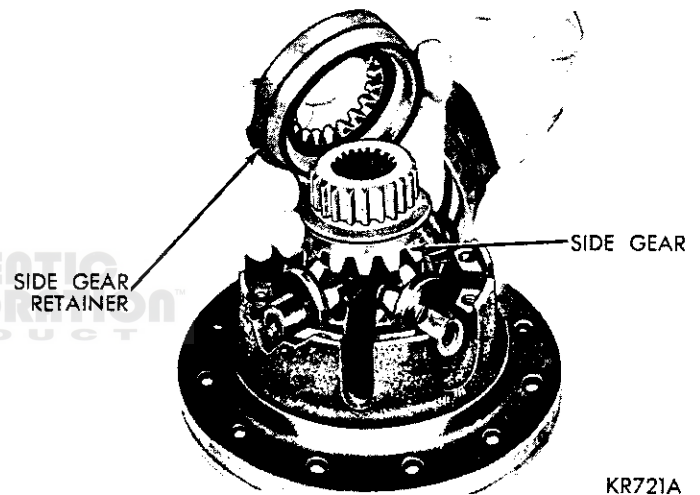
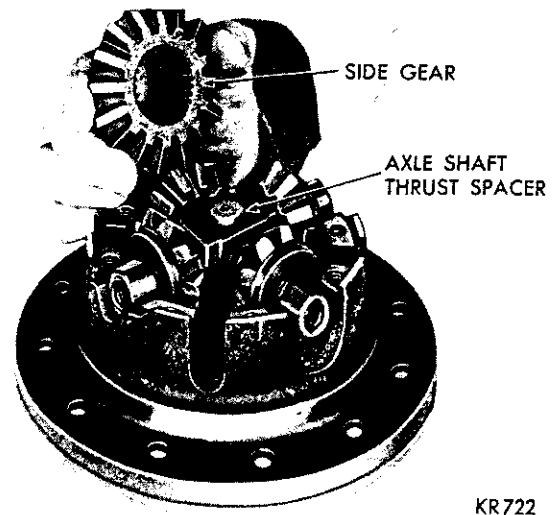

Fig. 26—Removing or Installing Side Gear Retainer (Cap Side)
Fig. 27—Removing or Installing Side Gear (Cap Side)
(3) Remove side gear retainer (Fig. 26), and side gear (Fig. 27).